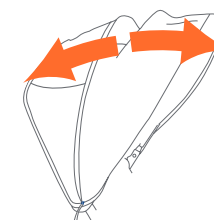

Fig. 11b
- **To open the canopy:** push forward on the front edge of the canopy while holding the rear of canopy in place (Fig. 11b).
- **To fold the canopy:** pull backwards on the front edge (Fig. 11b).